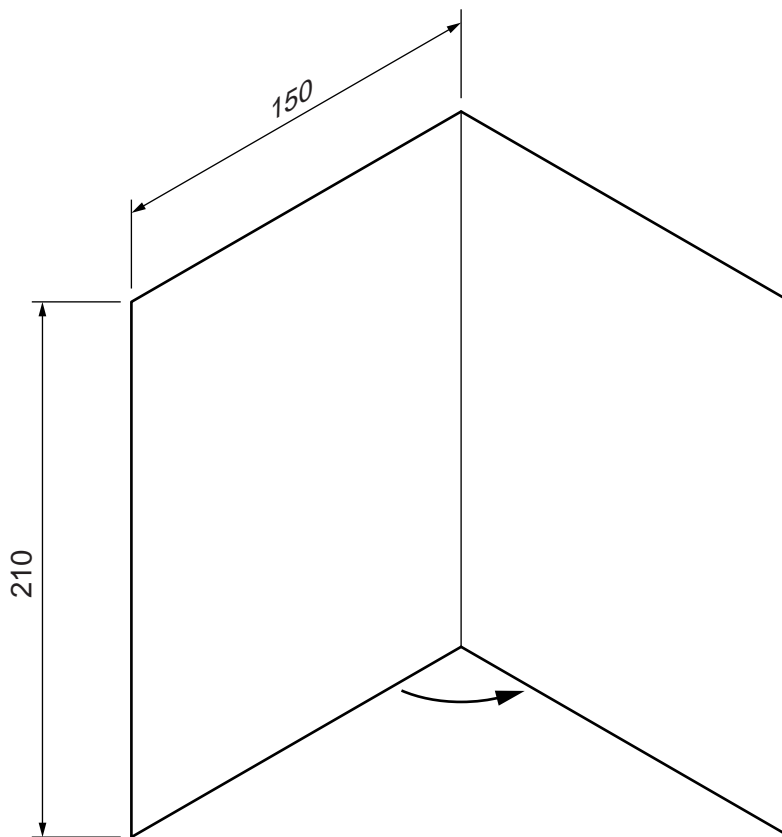

Fig. 8
- 8 Fig. 8 shows an incomplete idea for a pop-up card. The card will be sent to people who have recently passed their driving test.